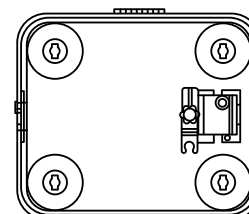

Figure 3
- Snap the water pump into the corresponding slot of the water tank as shown in Figure 3 below and pay attention to the direction.